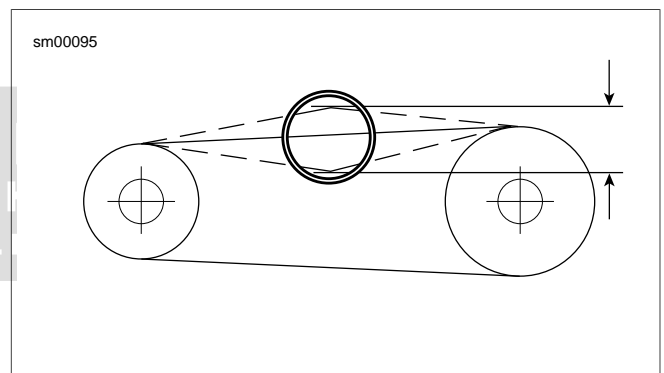

Figure 1-32. Measuring Primary Chain Free Play
- See Figure 1-32. Check primary chain tension by measuring vertical free play.